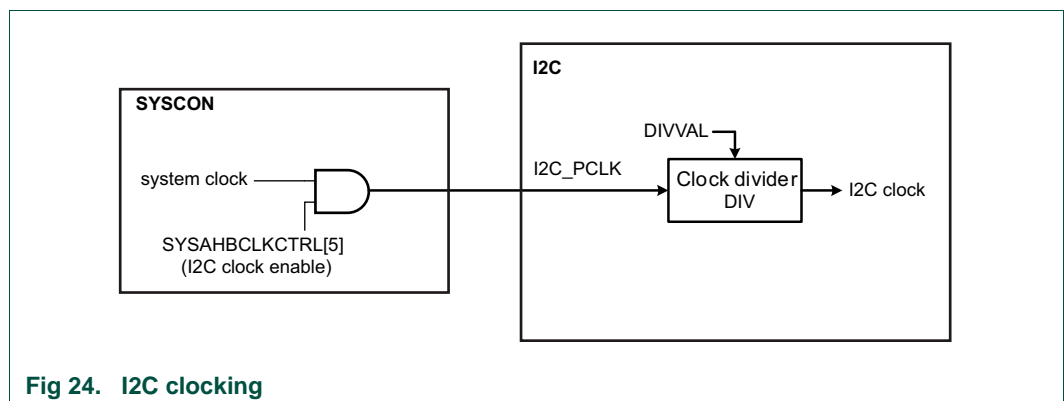

Fig 24. I2C clocking
- The peripheral clock for the I2C is the system clock (see Figure 24).